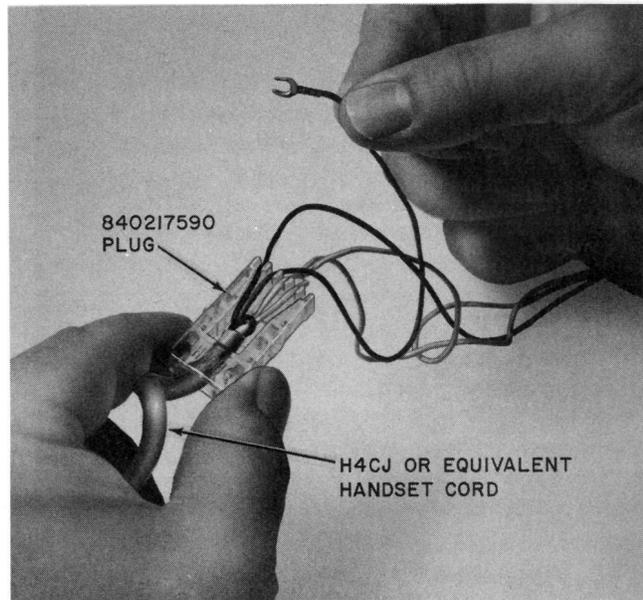

Fig. 19—Installing Spade-Tipped Handset Cords in Early Production 851- and 2851-Type Telephone Sets with G12A Handset
3.22 Installation of Spade-Tipped Handset Cords in Early Production Sets Equipped With G12A Handset (Fig. 19):